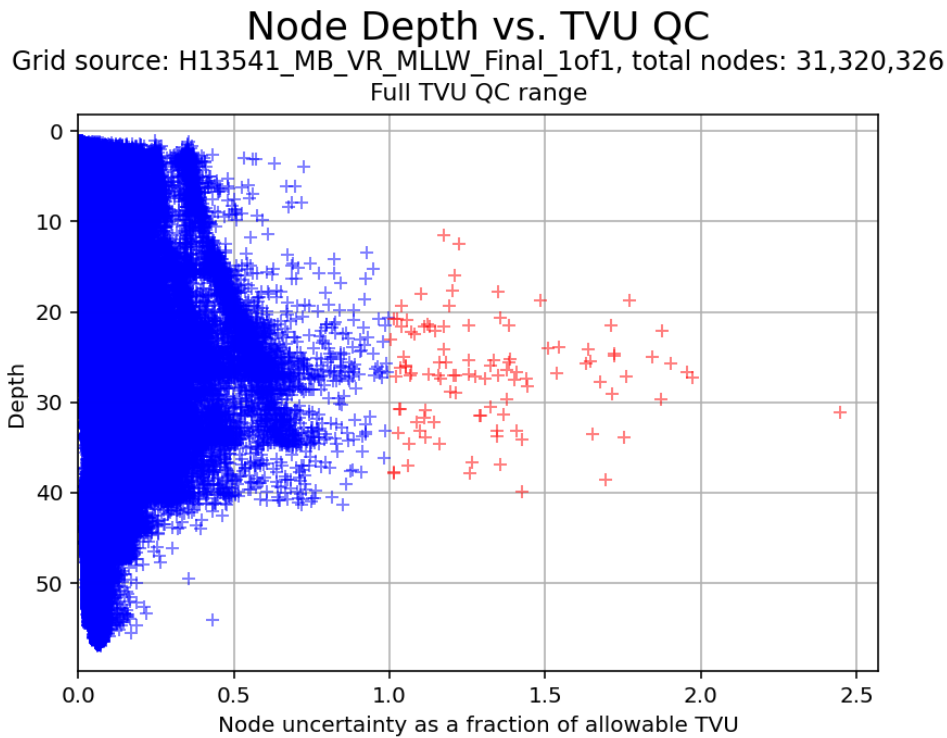

Fig. 2.32: A plot of every node represented in the surface in plotted as its depth on the y axis and its uncertainty as a fraction of the IHO TVU on the x axis.
- Node Depth vs. TVU (Fig. 2.32).